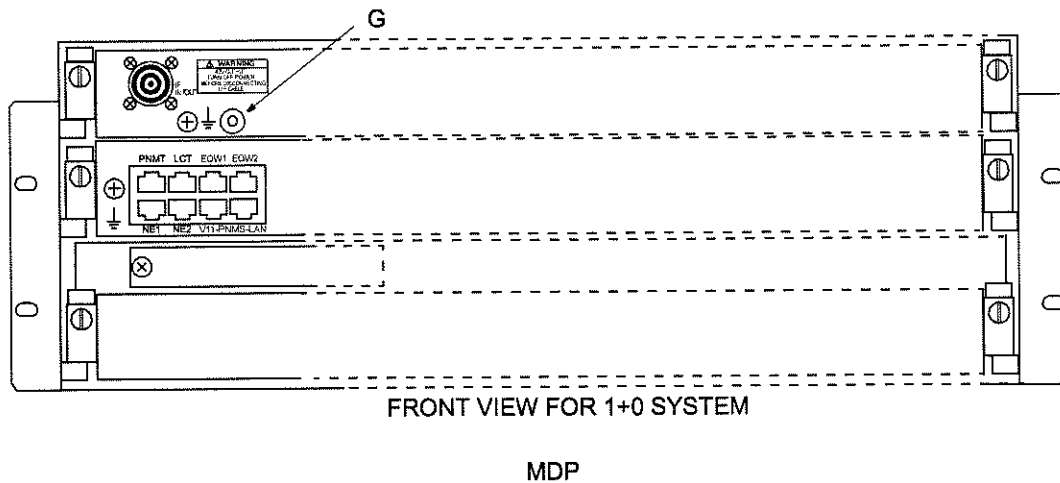

Fig. A-1 Location of Electro Static Protection Terminal
Caution: To protect the internal circuits against electrostatic discharge, engineers are requested to wear a wrist band and connect it to the ground (G) terminal for Electrostatic Protection (ESP) before detaching the top cover (see Fig. A-1).